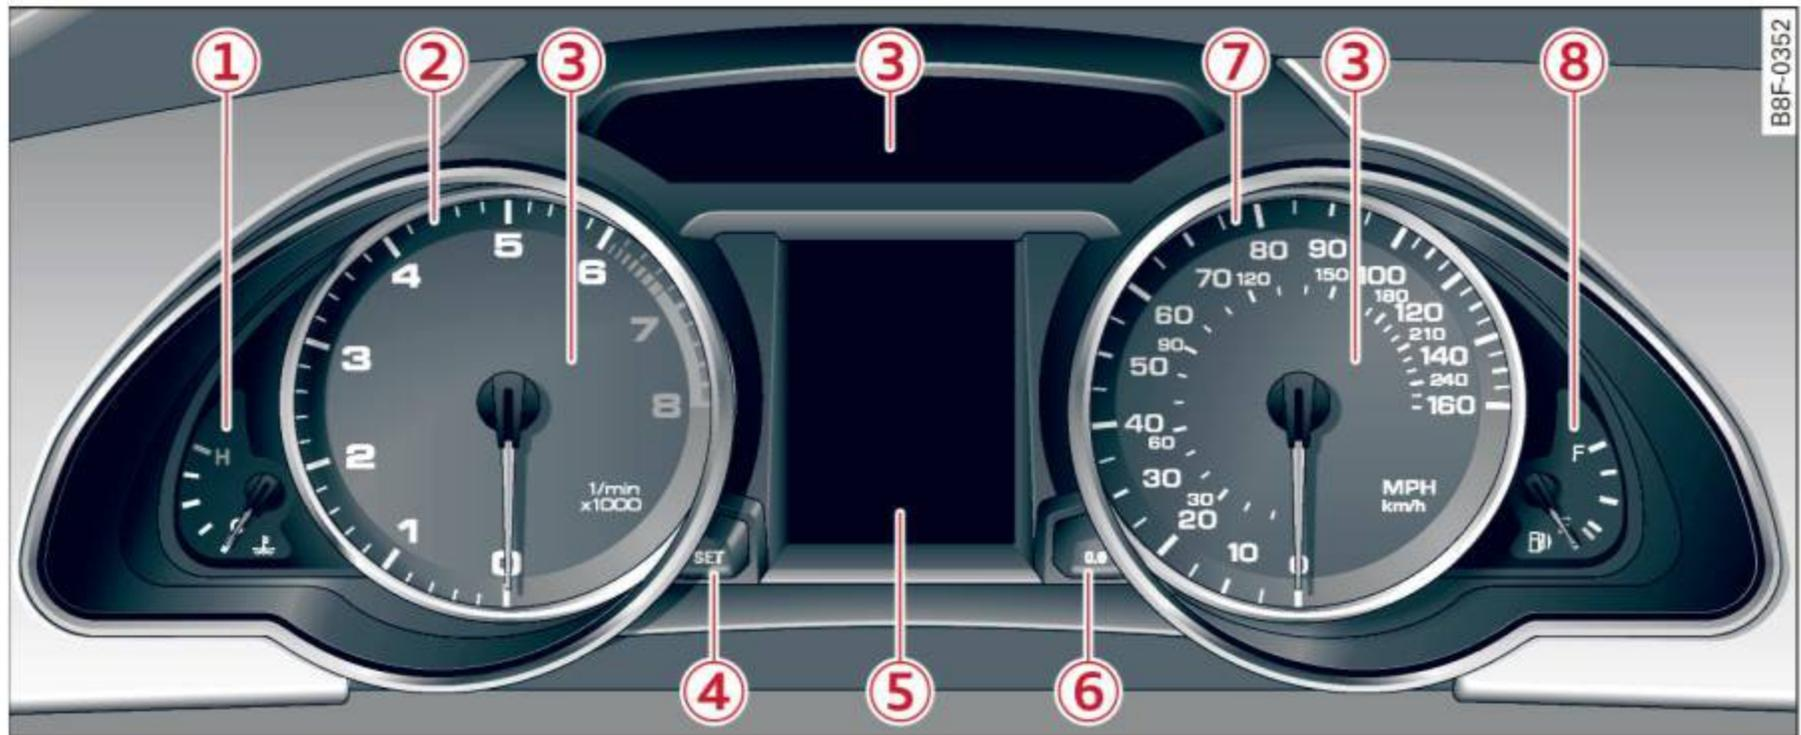

Fig. 3 Overview of the instrument cluster
The engine coolant gauge ⇒ page 10, fig. 3 ① only works when the ignition is on. To prevent damage to your engine, please note the following important points:
The tachometer needle ② ⇒ *page 10, fig. 3* should only briefly be in the red zone: you could damage your engine! The beginning of the red zone varies depending on the engine.